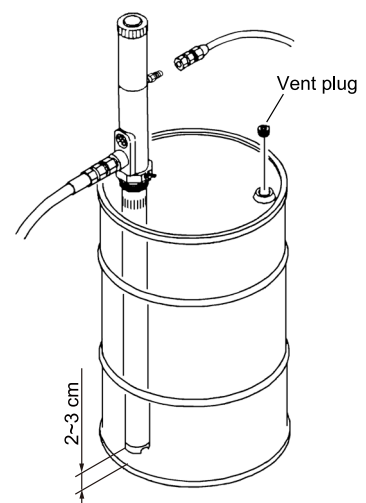

Fig. 4
- 4) Insert the pump into the bung adapter. After the lower end of the pump (foot valve section) hits the bottom of the drum, lift the pump by 2 - 3 cm to secure a gap between the bottom of the drum and the foot valve. After determining a position, tighten a wing bolt of the bung adapter to fix the pump. (Fig. 4)